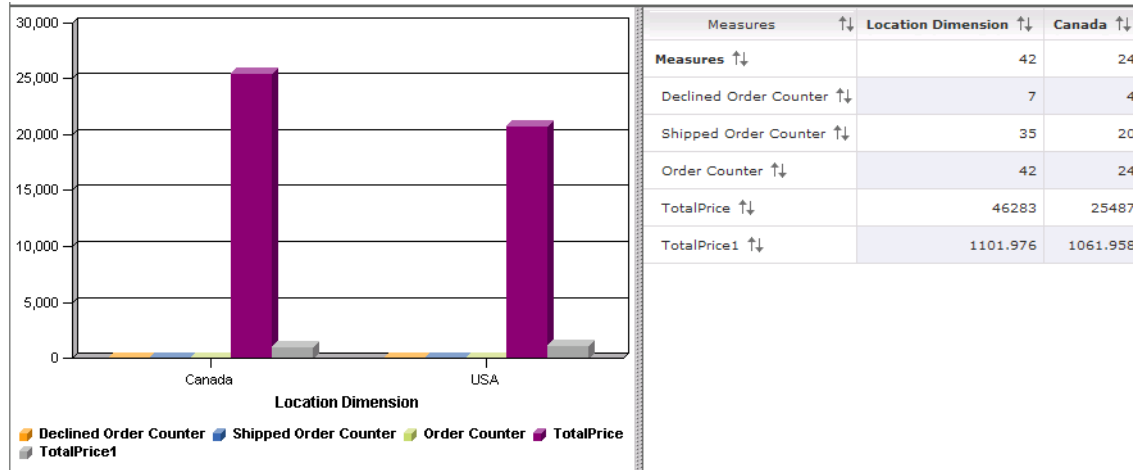

Figure 13-21 Configuring dimensions: Select measures and expand location
- ▶ Select *Location Dimension* and *Drill-Down* (right side) to expand the location into countries, Canada and USA (Figure 13-21).